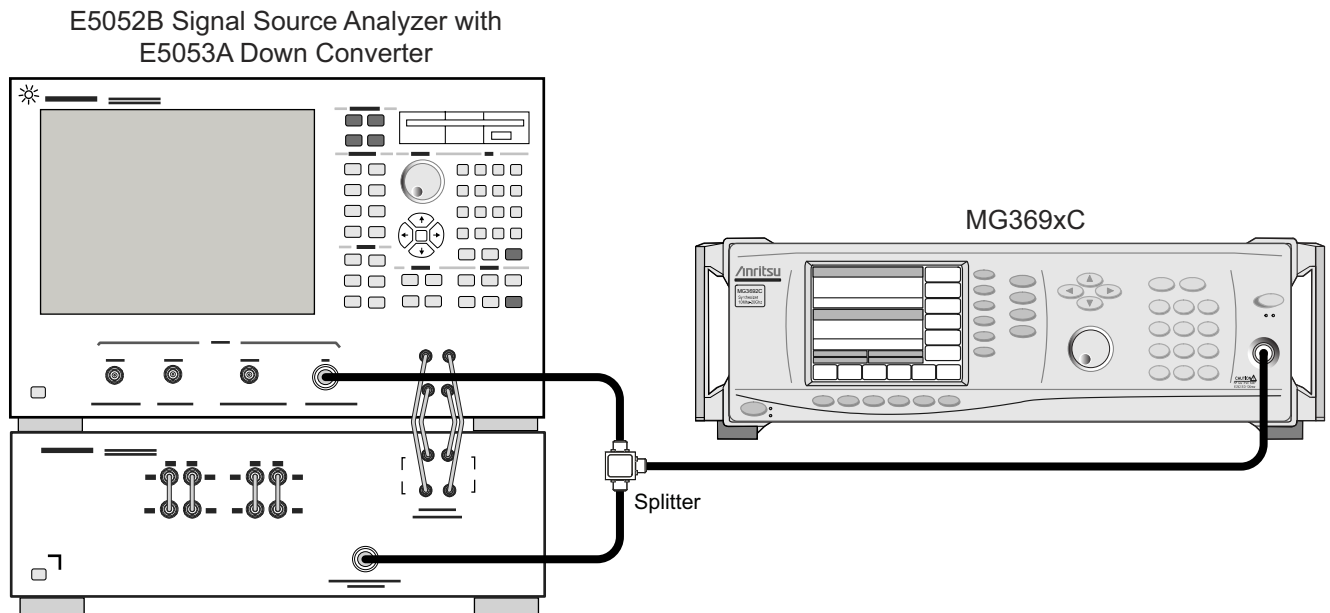

Figure 3-4. Equipment Setup for Single Sideband Phase Noise Test with E5052B and E5053A
- e. Connect the MG369xC as shown in Figure 3-4.